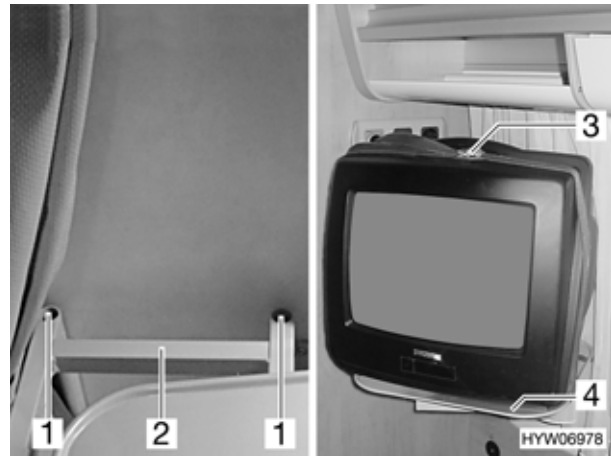

Fig. 65 Television
- Push rods (Fig. 65,2) of the support (Fig. 65,4) into holder (Fig. 65,1).
- Place TV unit onto support and secure it with retaining strap (Fig. 65,3).